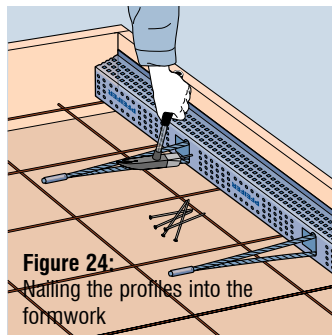

Figure 24: Nailing the profiles into the formwork
In the case of a precast part connection with the VS® rail system, the grouting groove is automatically created by the rail profiles. This means that no additional recess bodies, no additional depths or similar elements must be provided here. When mounting the VS® rails and long boxes into the formwork, the rope ends must be threaded into the reinforcement as straight as possible. After that, the profiles are nailed in a simple way beginning at the lower point of construction unit for both construction units or are glued with hot adhesive to the steel formwork (Fig. 24). Fixing the loops on the mesh reinforcement prevents the rail and the loops from slipping. The rope end anchorings must be arranged at less than 90° to the joint. The profiles must be arranged with the arrows upwards. They must be positioned so that overlaying loops correspond exactly in height.
**!** PFEIFER application support should be contacted for installation variants that differ from Figure 24 where **increased formwork compression** is expected. This is the case with upright or battery formwork, for example!